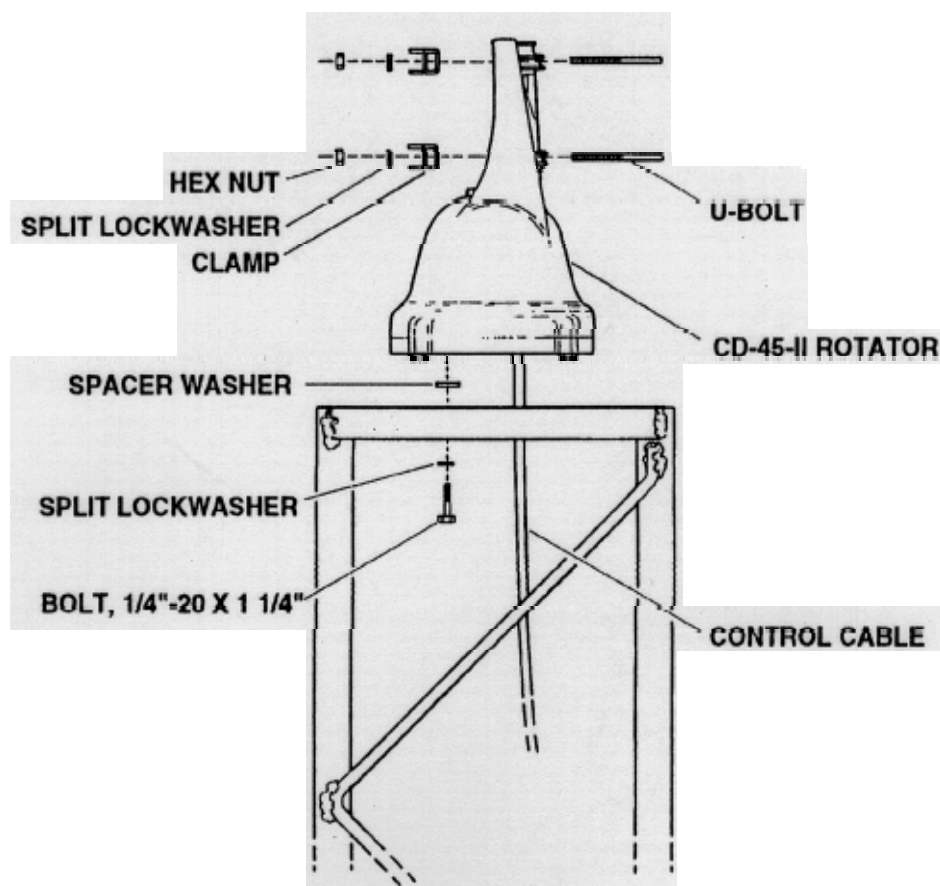

Figure 8
1. Mounting the rotator on top of a tower is similar to the mast mounting except the lower mast support is not used. (See Figure 8.)
Grounds on cable leads can bum out either the line fuse or the small fuse in the meter circuit. If lead No. 3 or lead No. 7 is grounded, it shorts out part of the potentiometer so that as rotation progresses to the other end, the full DC voltage is applied across a decreasing portion until current becomes so high that the potentiometer burns out. Note also that any grounds may put an overload on the power transformer which could cause the line fuse to blow or overload the rectifier circuit so that the 1/8 amp fuse blows. For full explanations, refer to Figure 8